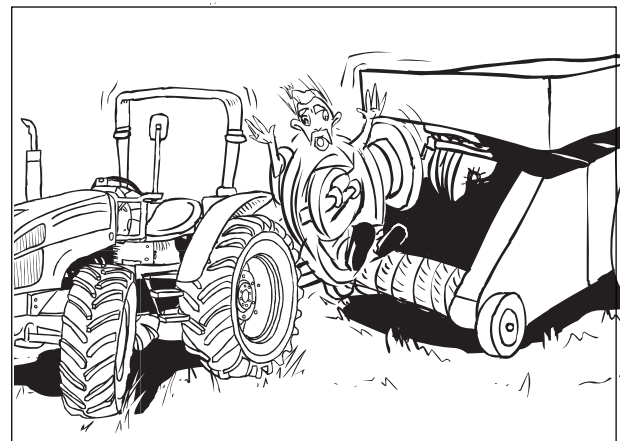

Fig.2-33
- Before attaching, detaching, cleaning or adjusting PTO driven implements, disengage the PTO, stop the engine, remove the key, and make sure that the PTO driveline has stopped (Fig. 2-33).